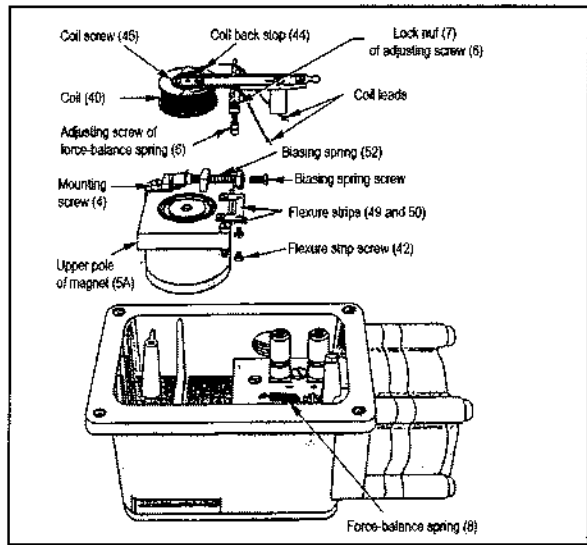

Figure 9 - Replacement of flexure strips and the coil
4.4 Flexure strips replacement (figure 9)
- Remove two screws (4) and lift the entire operating mechanism from the case.
- Remove screws (42) and flexure strips (49 and 50) from the beam. Replace coil if necessary according to instructions of the paragraph 4.5.
- Replace damaged flexure strips and reattach beam to the magnet with new flexure strips and screws (42). Do not tighten screws. Align the beam according to instructions of the paragraph 4.6.